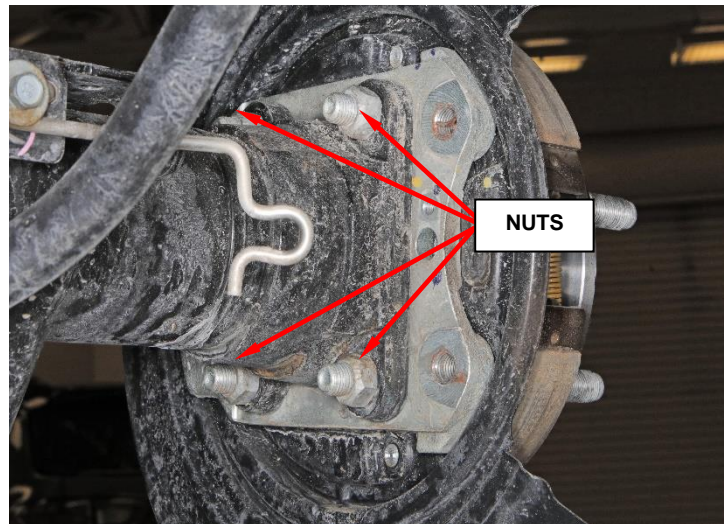

Figure 6 – Axle Shaft Retainers
8. Remove the axle shaft retainer nuts and **DISCARD** (Figure 6).
3. Hand start **all 4 NEW** axle shaft retainer nuts (Figure 6).
4. Tighten all 4 of the axle shaft retainer nuts to 80N·m (59ft. Lbs.) (Figure 6).